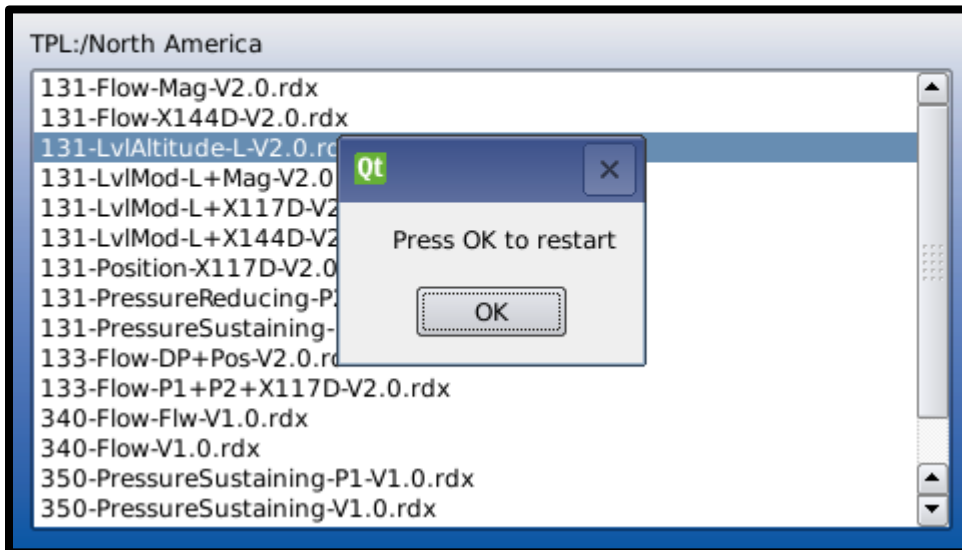

Figure 5.6
- c. Press “OK” to restart per **FIGURE 5.6**.